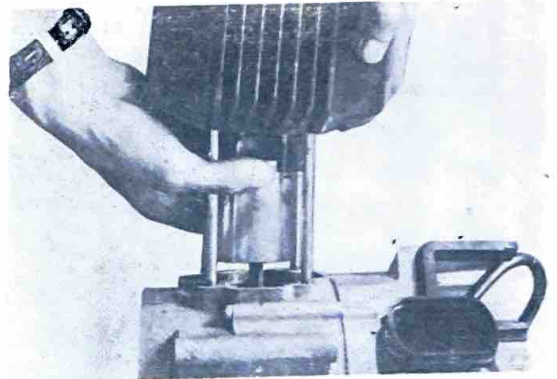

Fig. 3-3-4
- b. When installing the cylinder over the piston, squeeze the piston rings into their grooves (the ring ends should be positioned at their respective locating pins), so that they will not catch and break on the bottom of the cylinder. (Careless handling may break rings.) (Fig. 3-3-4)